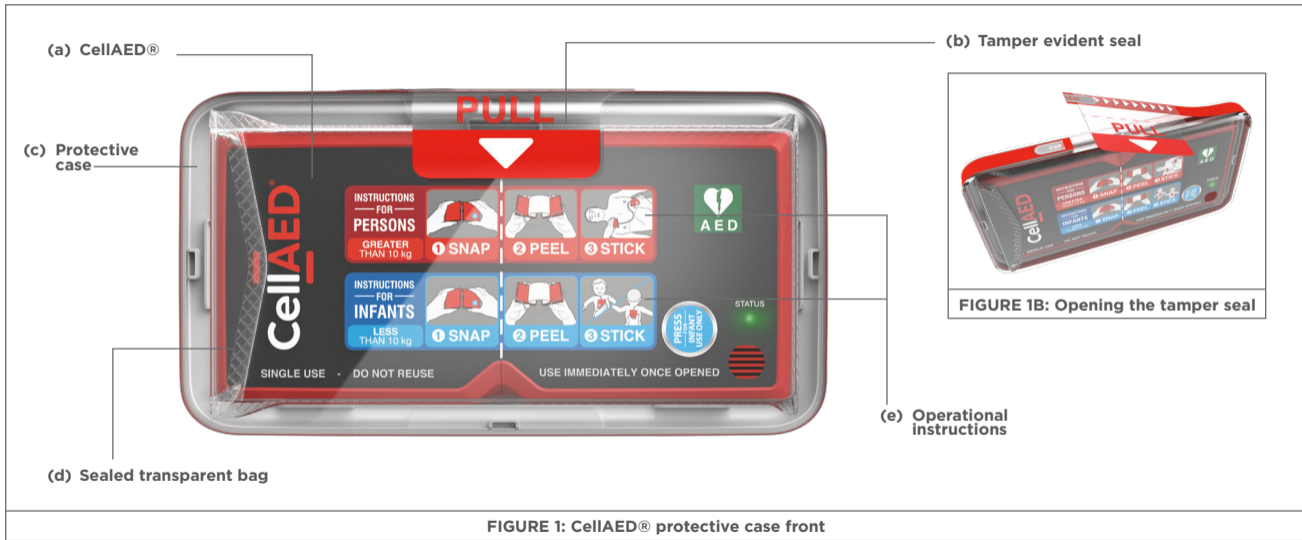
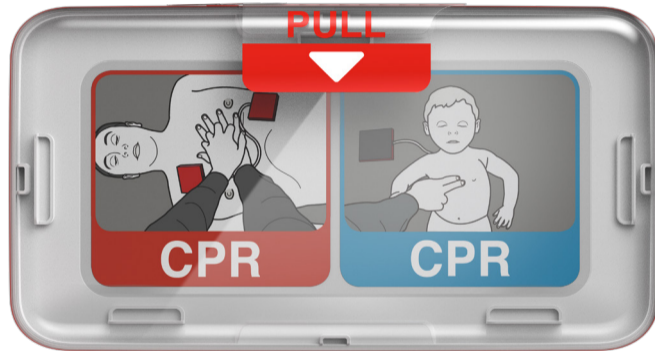

FIGURE 1: CellaAED® protective case front
FIGURE 4B: CellaED® protective case inside
To help ensure the integrity of the CellaED® and to verify that it is complete and ready for use, perform the following inspection (**Figure 1 - Figure 4B, pages 21 - 27**):
- 2. Open** the outer packaging and remove the CellaED® in its protective case. Check that the tamper evident seal (**Figure 1 (b), page 21**) on the protective case has not been broken. Do not remove the tamper evident seal, and do not remove the CellaED® from the protective case and sealed transparent bag until required for emergency use (**Figure 1 (c) and (d), page 21**). If the tamper evident seal has been broken, contact the manufacturer.
- 3. Check** and confirm the Use-by Date on the protective case has not expired (**Figure 4A (c), page 26**). Verify that the green LED indicator is flashing. The green LED will flash approx. every 30 seconds (**Figure 5 (e), page 34**), and is visible through the protective case (**Figure 1 (d), page 21**). A green LED flashing means the CellaED® is
For personal, home, public, or office use, the CellaAED® is stored inside a hard protective case (**Figure 1 (c), page 21**). The back of the case details additional environmental and operational safety requirements, and features a tamper evident seal (**Figure 1 (b), page 21**). The CellaAED® operational label (as seen through the transparent bag and front of the transparent protective case) provides clear
and simple operational instructions to follow when a patient has suspected SCA (**Figure 1 (e), page 21**).